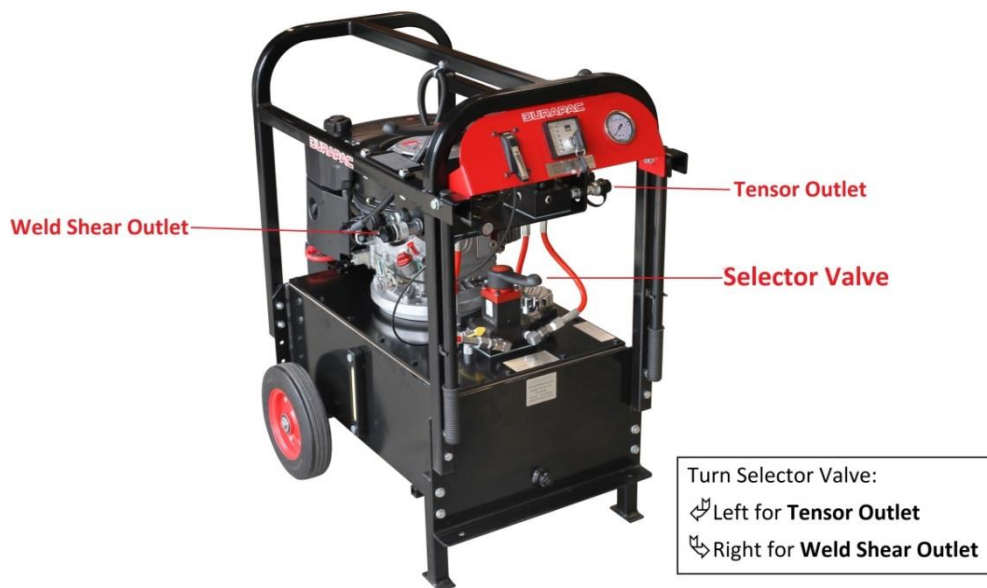

Figure 1 – Selector Valve & Outlets
- 5.2.2 Ensure the hydraulic selector valve and tool directional valves (Figure 1) are in the centre position